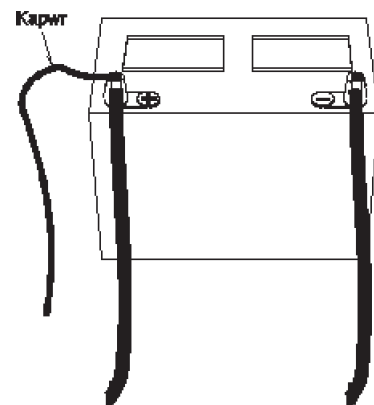

Fig 2
- The (KAPWR) wire must be connected and right angles to the main battery feed when connected directly to the battery post (figure 2).